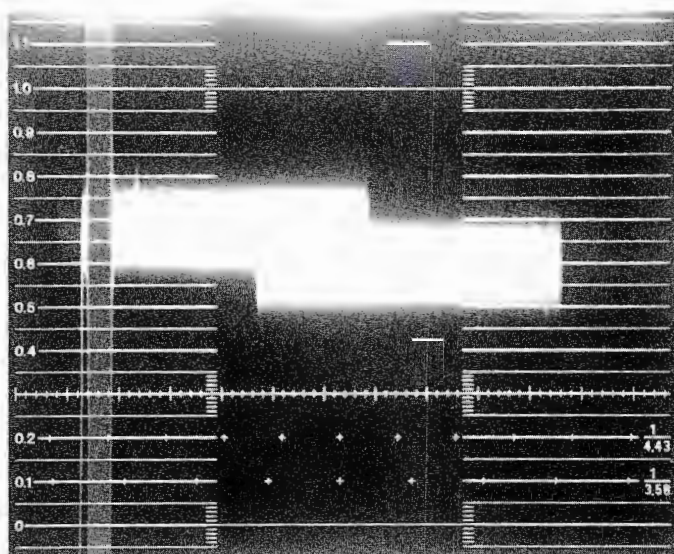

Figure 5. Correct Trace Overlap.
8. Starting at a low numeric figure, adjust the dB NOISE controls such that the gap between the overlaid waveforms just disappears as illustrated in Figure 5.